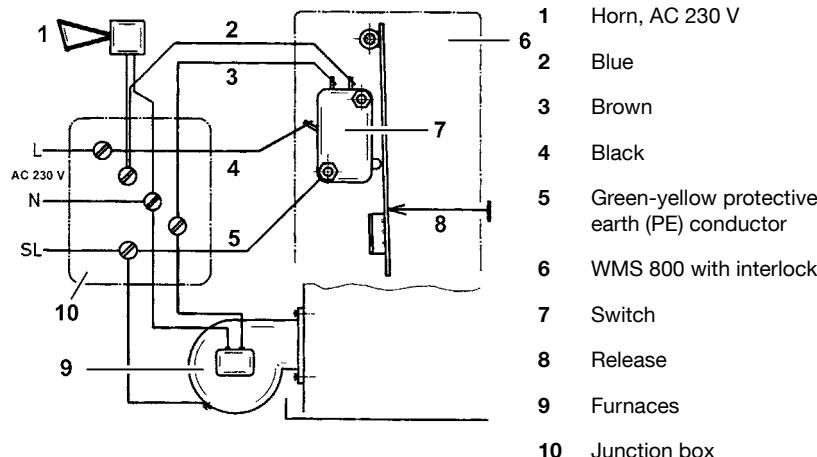

Figure 4: Electrical connection WMS 800 with interlock
- ▶ Wire any other required connections professionally to a junction box as shown in Figure 4, Page 9.